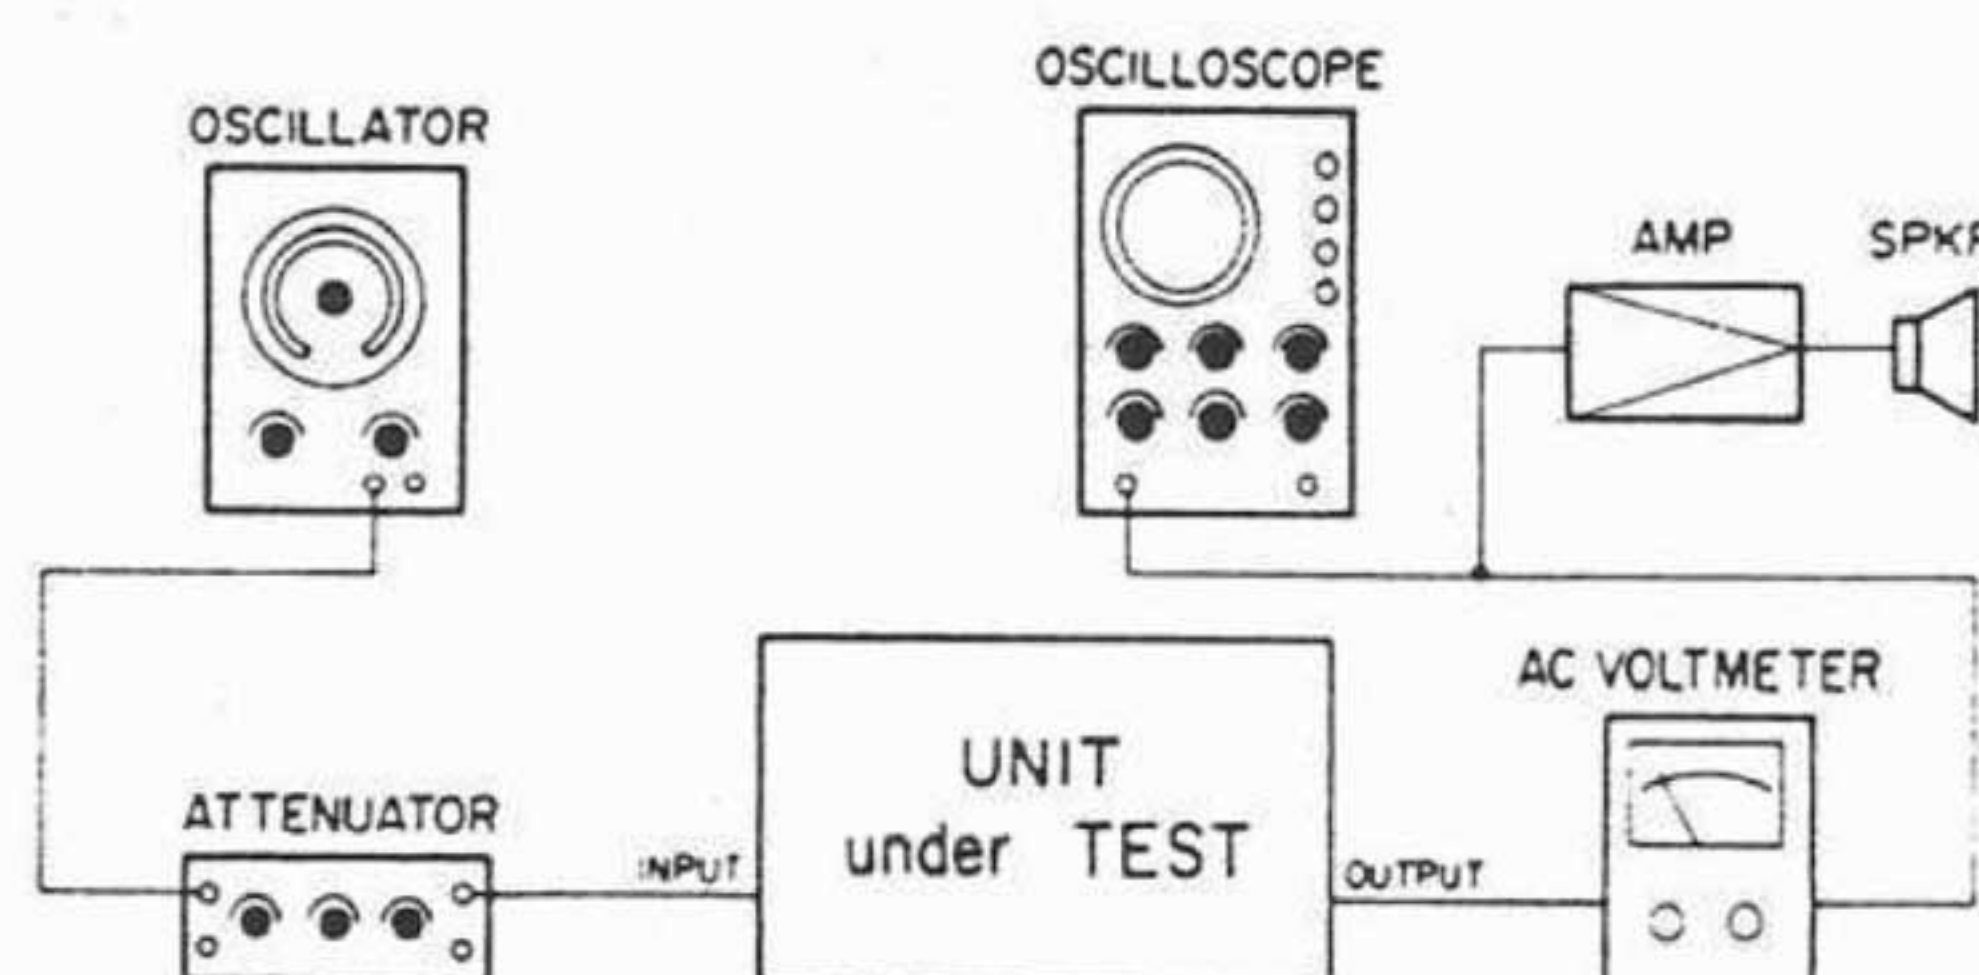

FIG. 34. SET-UP FOR LEVEL & FREQUENCY RESPONSE CHECKS
1. Connect test equipment to the channel 1 input and output jacks of the deck as shown in Fig. 34.